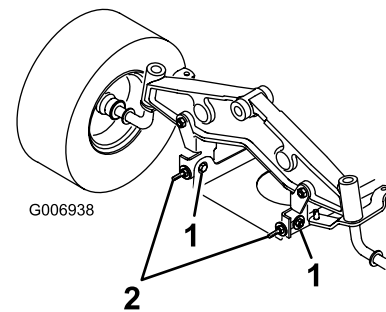

Figure 63
- Slightly loosen the front pivot plate mounting bolts (Figure 63).
- Rotate the locknuts on the eyebolts to change the adjustment (Figure 63).
- After adjusting both of the eyebolt locknuts evenly, check the front-to-rear slope again. Continue adjusting the eyebolts until the front blade tip is 0 to 3/8 inch (0 to 9 mm) lower than the rear blade tip (Figure 63).
13. When the front-to-rear slope is correct, tighten the pivot plate mounting bolts (Figure 63).